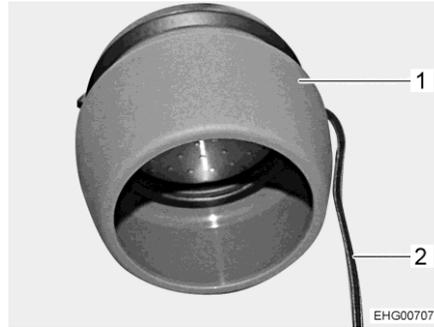
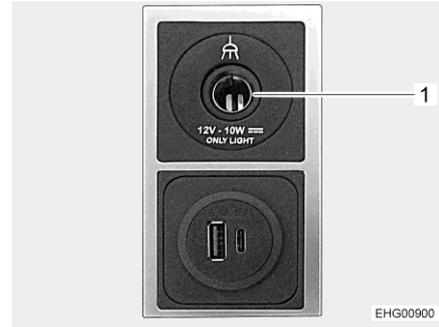

Fig. 74 Pendant lamp
Fig. 75 12 V socket and USB ports
- Install the pendant lamp (Fig. 74,1) at the desired location.
- Connect the cable (Fig. 74,2) of the pendant lamp to the nearest 12 V socket (Fig. 75,1).